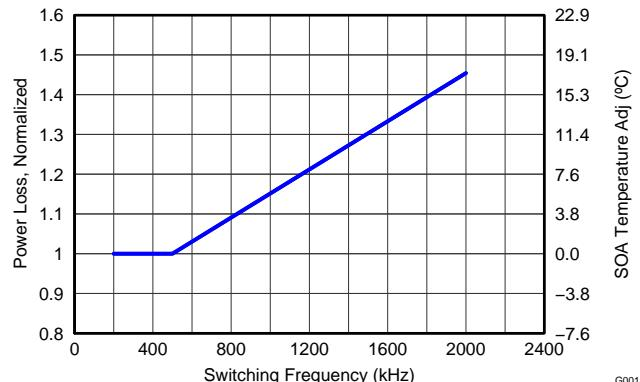

Figure 12. Normalized Power Loss vs Frequency
- Normalized Power Loss for switching frequency ≈ 1.09 (Figure 12)
- SOA adjustment for switching frequency $\approx 3.4^{\circ}\text{C}$ (Figure 12)